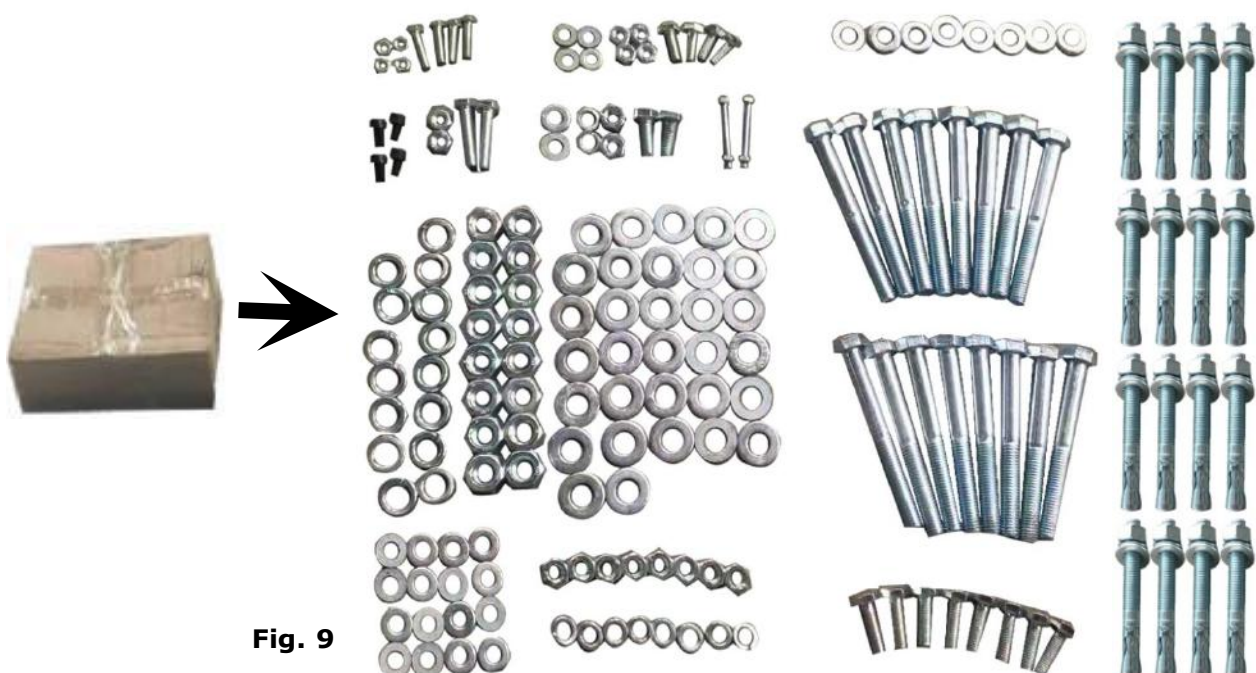

Fig. 9
6. Check the parts of the parts bag **(See Fig. 9)**.